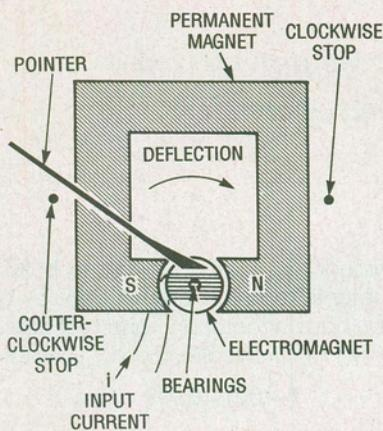

Fig. 1. This is a simple d'Arsonval movement. The deflection of the needle is proportional to the input current ( $i$ ).
**d'Arsonval Operation.** The functioning of the d'Arsonval movement is remarkably straightforward. In its simplest form, a coil of fine wire is wrapped about a cylindrical iron core to form an electromagnet (Fig. 1). The electromagnet is then mounted on very-low-friction bearings between the poles of a permanent magnet. A tension spring, stops, and a pointing needle